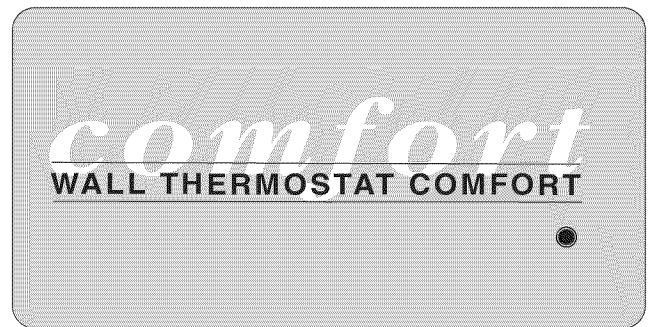

Fig. 23 – Wall Thermostat Control Panel Label
6. Replace control panel label with wall thermostat label. See Fig. 23.